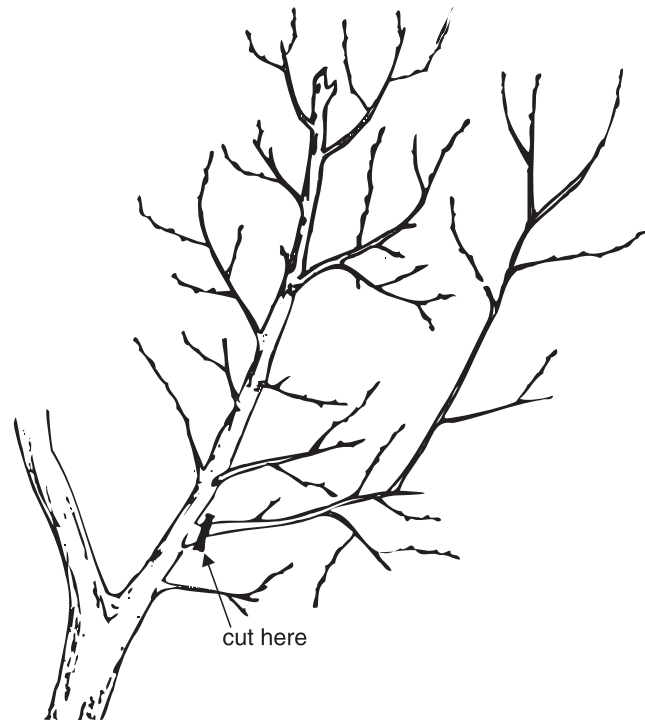

Figure 18. Remove vigorous laterals that compete with the main leaders
- Remove strong secondary laterals that are competing with main leaders (Figure 18).